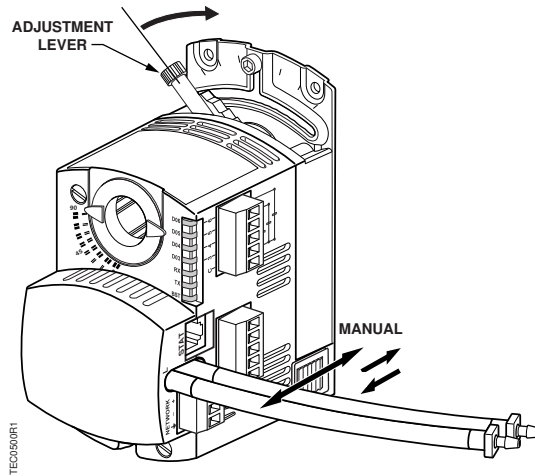

Figure 6. Setting the Direction of Rotation.
- If the blades will rotate counterclockwise, slide the manual override switch to manual, and move the adjustment lever to the right. Return the switch to automatic, Figure 6.
- If the blades will rotate clockwise, slide the manual override switch to manual, and move the adjustment lever to the left. Return the switch to automatic, Figure 6.